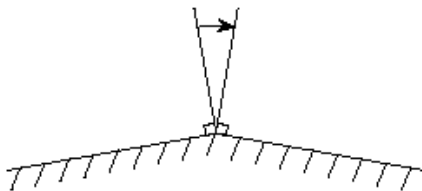

Figure 7.4.1: Angle Between Adjacent Face Normals
**Angle** specifies the maximum allowable angle between two adjacent face normals (see Figure 7.4.1) when using the **Improve** option with **Skewness**, **Size Change**, or **Aspect Ratio** selected as the **Quality Measure**.
**Max Angle** specifies the maximum allowable angle between two adjacent face normals (Figure 7.4.1). The **Max Angle** option is available only when **Smooth** or **Swap** is selected in the **Options** drop-down list.